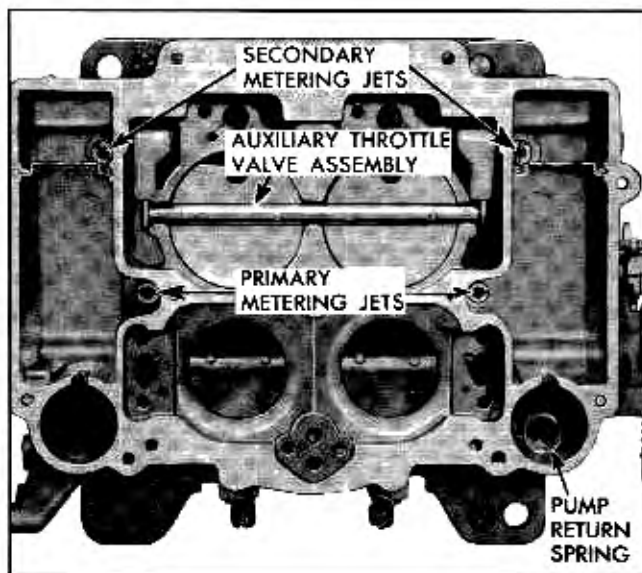

Fig. 6B-76 Body Assembly with Clusters Removed
9. Remove secondary venturii on pump and choke sides. (Fig. 6B-75).